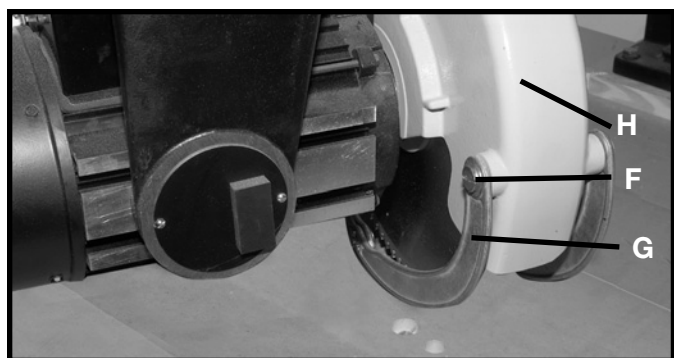

Fig. 26
6. Place leaf guard (G) Fig. 26 in place on blade guard (H) and fasten with special shoulder bolt (F).